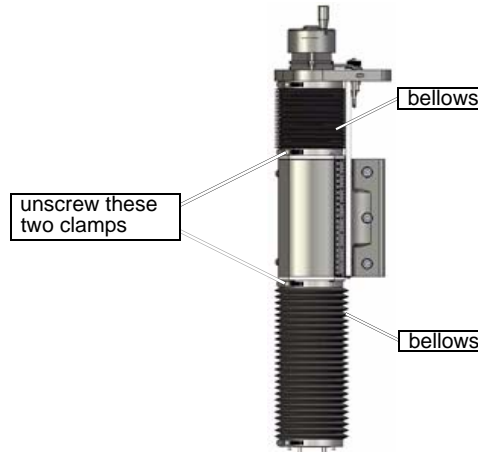

Figure 6-14: Z-axis Assembly
3. Using a 5/16" (8 mm) socket, unscrew the two clamps holding the bellows in place that are identified in Figure 6-14 below: